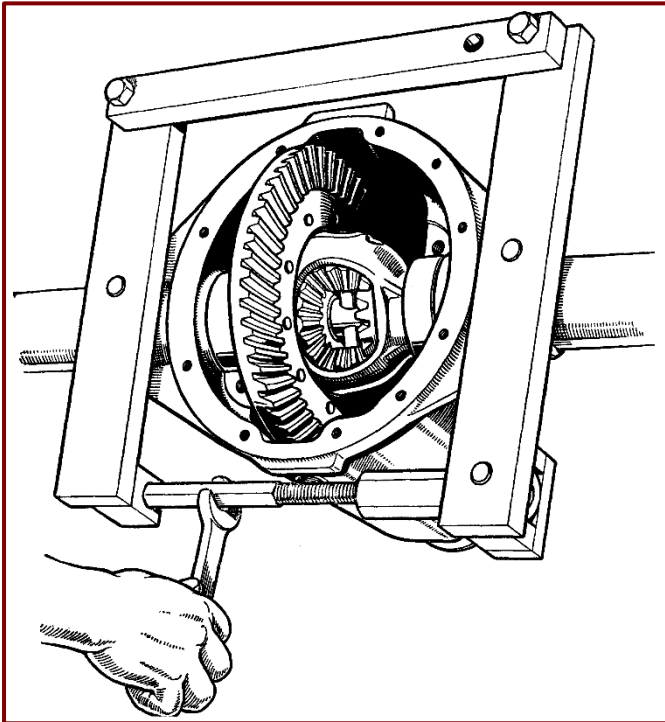

Figure 48. Stretching Axle Casing in order to remove Differential Assembly.
4. Before attempting to remove the differential assembly, fit the stretching fixture, Tool No. SE.104 as shown in *Figure 48*. The fixture should be adjusted to suit the model being serviced, a series of holes being provided in the member opposite the turnbuckle for this purpose. Open the fixture by means of the turnbuckle until it is hand tight, then spread the case by using a spanner. **DO NOT OVER-SPREAD, OR THE AXLE CASING WILL BE DAMAGED BEYOND REPAIR.** The correct spread does not exceed a half turn on the turnbuckle, and this figure should not be exceeded even if the differential is still stiff to remove.
7. To facilitate installation of the differential assembly, fit the stretching fixture, Tool No. SE. 104 as shown in *Figure 48* (Ref. operation 2 in 'To Dismantle Differential Unit with Service Tool'). Stretch the gear carrier, being sure not to exceed the half turn specified on the turnbuckle or the axle casing will be damaged beyond repair.